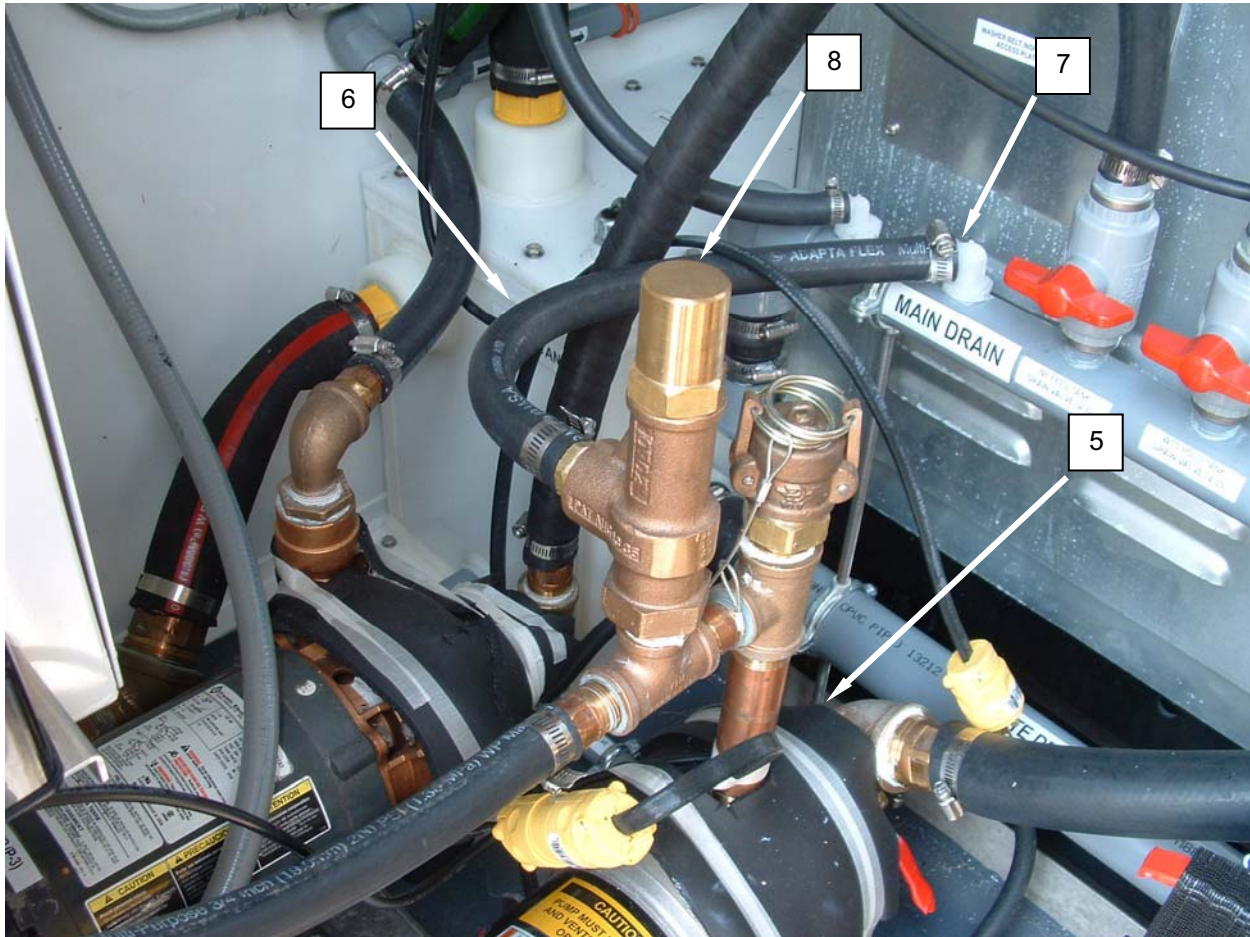

Figure 2. Test the Pressure Relief Valve.
1. Disconnect power from P-1 pump (**Figure 2, Item 5**).
2. Loosen hose clamp retaining the pressure relief valve hose (**Figure 2, Item 6**) to the drain manifold (**Figure 2, Item 7**), and disconnect pressure relief valve hose from drain manifold.
3. Place hose end (**Figure 2, Item 6**) in bucket.
4. Ensure water supply is on, connect power to P-1 pump (**Figure 2, Item 5**) and switch pump on.
6. Adjust the valve (**Figure 2, Item 8**) that discharges water at operating pressures (30 to 60 psig).
7. Switch P-1 pump (**Figure 2, Item 5**) off and disconnect power.
8. Install pressure relief valve hose (**Figure 2, Item 6**) onto drain manifold (**Figure 2, Item 7**) and retain with hose clamp.